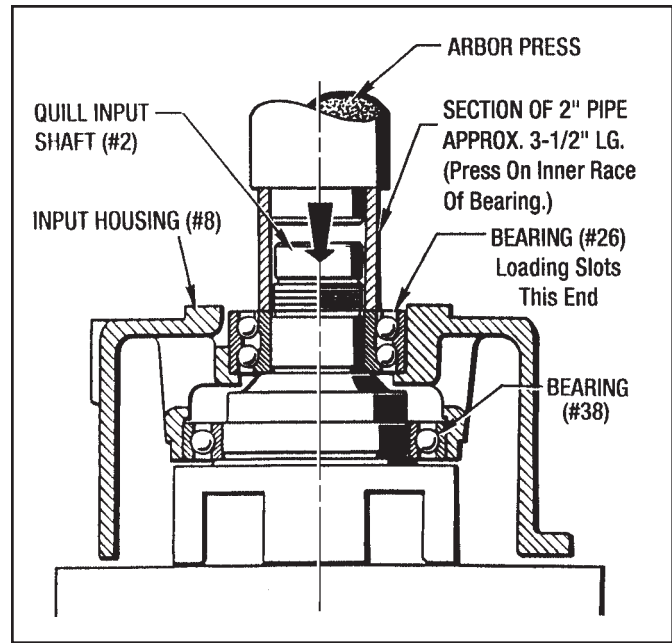

Figure 9.2- Installing Quill Input Shaft
3. Set the Input Housing into an arbor press as shown in Figure 9.2. Place the Bearing (#26) onto the Input Shaft with the bearing loading slots up. With an appropriate sized tube, as shown, press on the inner race of the bearing until it bottoms out. **(Do not press on the bearing cage of the outer race.)**
7. Slide the Bearing Retainer (#207) with the Gasket (#206) over the shaft, being careful not to damage the lip of the Oil Seal (#208). Attach with (6) Screws (#210). **Torque to 14 Ft. Lbs.**